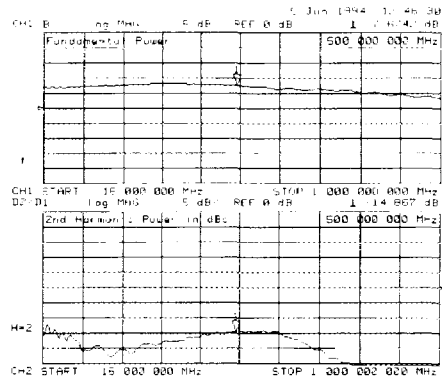

Figure 4-35. 2nd Harmonic Power Level in dBc
- 10 Press CHAN 2, DISPLAY, MORE, D2/D1 to D2 ON. The display mode lets you see the relationship between the fundamental and second or third harmonic in dBc. Refer to Figure 4-35.